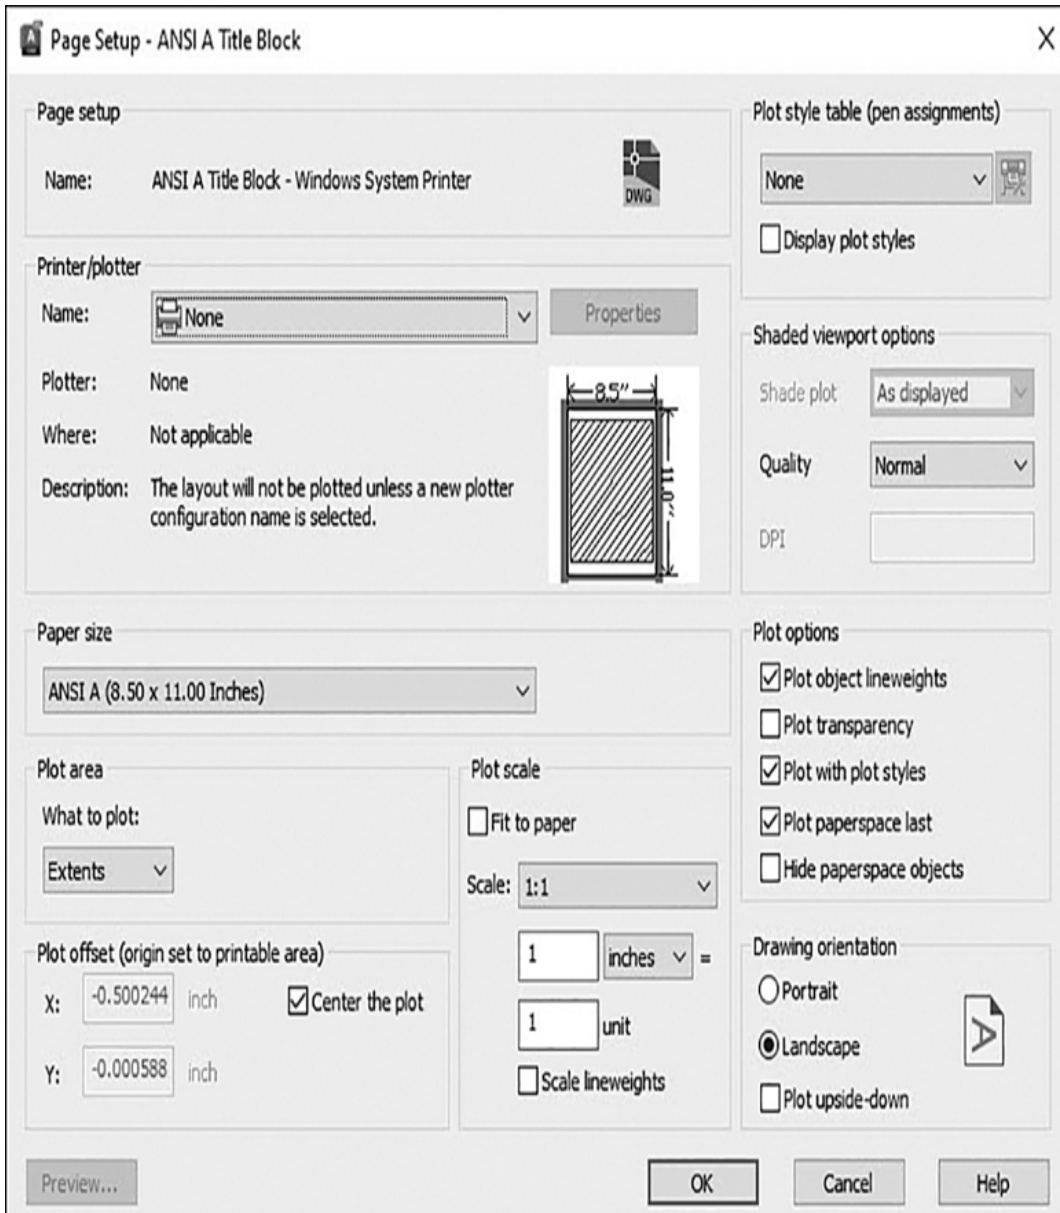

Figure 2-60
- 4** Enter **ANSI A Title Block - Windows System Printer** as the new page setup name and choose **OK**. This displays the **Page Setup** dialog box (see Figure 2-60).
- 11** Choose **Landscape** in the **Drawing orientation** area. Your selections should be the same as those shown in Figure 2-60.